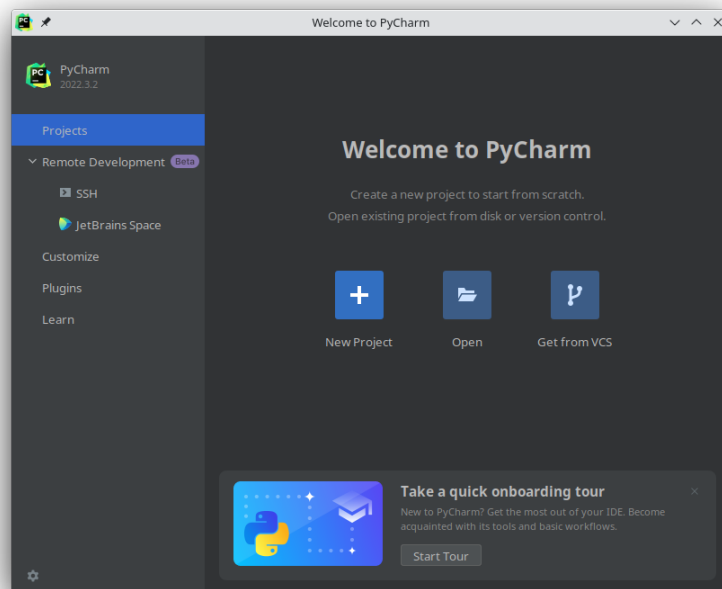

Figure 8: PyCharm Start Window
2. When you have selected your background color and get to the start window of PyCharm, click **Create New Project**. See Figure 8.